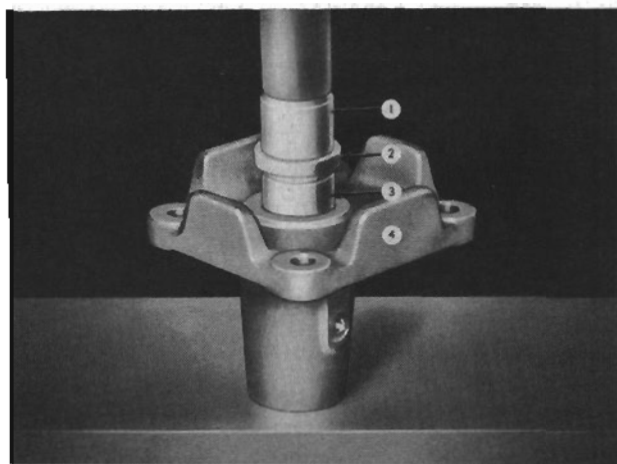
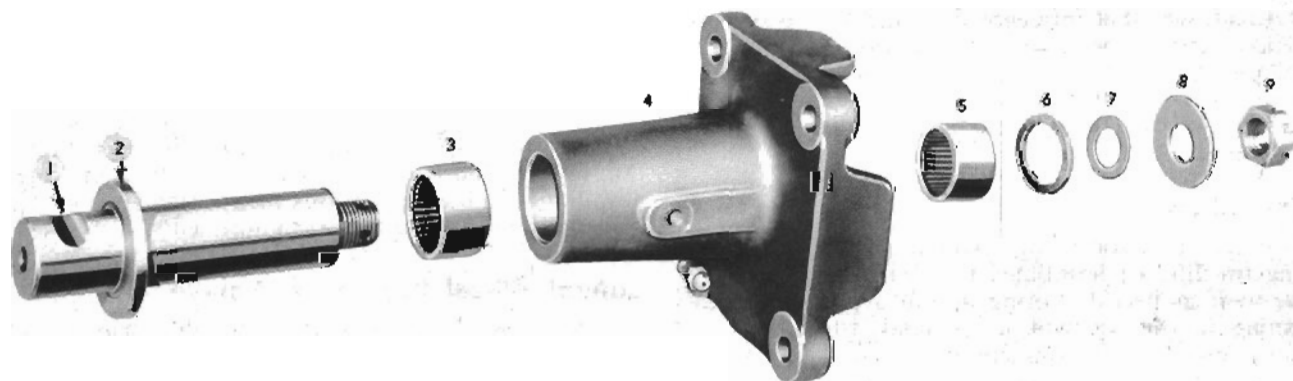

FIG. 37
FIG. 36
To install the upper bearing (3, Fig. 36), insert the pilot in the lower end of the bracket (4), place the upper bearing on the arbor, and press the bearing into the bracket until the bearing is approximately 1/32" (0.79 mm.) below the surface of the bracket. To install the lower bearing, place the pilot (2, Fig. 37) and the lower bearing (3) on the arbor (1) and, using the upper bearing as a pilot, press the bearing into the bracket (4) until the shoulder of the pilot is flush with the bracket.
Install the shaft and thrust washer assembly in the bracket. Install the cork seal (6, Fig. 36) in the shaft bracket. Install the thrust washer (8) and nut (9), then adjust by inserting shims between the lower thrust washer and the shaft until there is no end play. The shaft should, however, turn freely in the bearings. After obtaining the proper end play, lock the nut securely with the cotter pin.